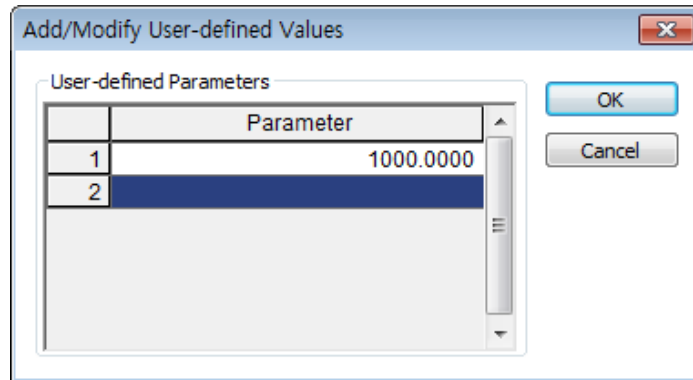

Figure 10. User-defined value input window
- 1) Input the coefficients into the corresponding rows as shown in Figure 10.